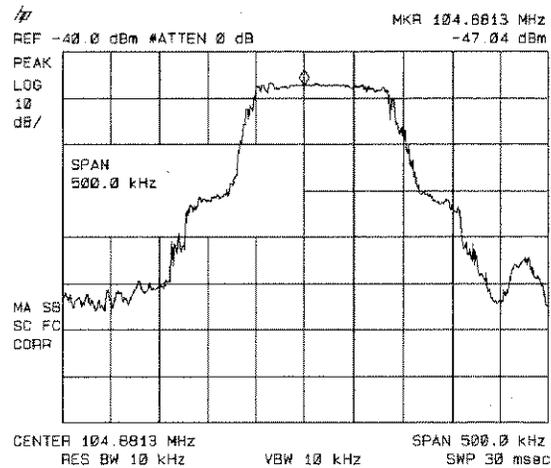

Figure 3-10. Viewing an Unstable Signal Using Max Hold A
5. To measure the excursion of the signal, press **(TRACE)** then **MAX HOLD A**. As the signal varies, maximum hold maintains the maximum responses of the input signal, as shown in Figure 3-10.